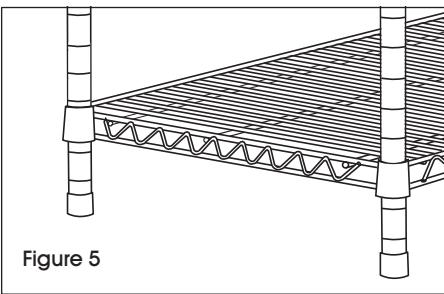

Figure 5
3. Stand unit upright. Gently tap shelf down to secure it. (See Figure 5)